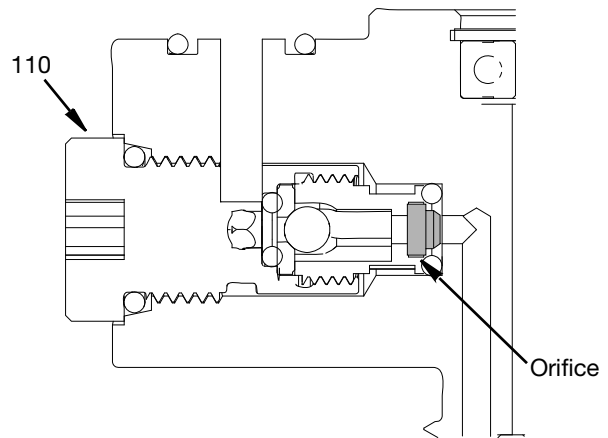

FIG. 22
1. Using a 5 mm allen wrench, remove the check valve body (110).
2. Place the orifice in the check valve orifice retainer as shown in FIG. 22.